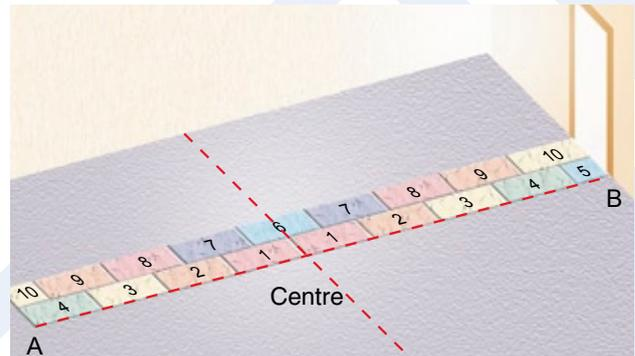

Fig. 2: Measuring for laying flooring boards
5.4.2 Measuring for laying flooring boards (Fig. 2)